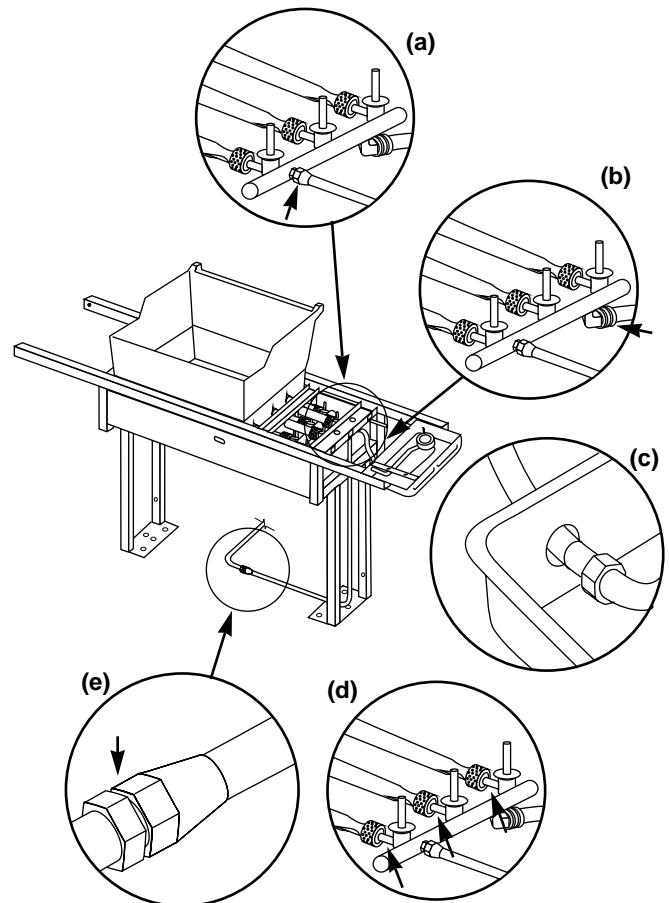

Figure 24
- a) Gas supply line to manifold connection. Figure 24 (a).
- b) Manifold to side burner hose connection. Figure 24 (b).
- c) Side burner hose to side burner connection. Figure 24 (c).
- d) Valves to manifold connections. Figure 24 (d).
- e) Barbecue gas supply line to natural gas supply connection. Figure 24 (e).